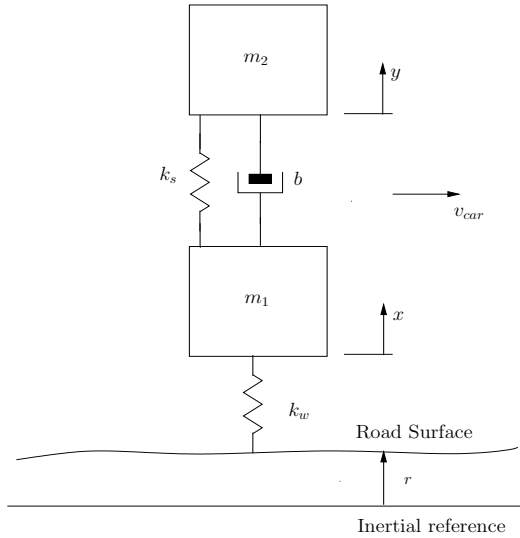

Figure 1: Two mass-model of car suspension system.
Question 1 Suppose you have a car with a suspension system modelled as a two-mass system (Figure 1). Assume that the car has a mass of 1580 kg, including the four wheels, which have a mass of 20 kg each. By placing a known weight directly over a wheel and measuring the car's deflection, you found the spring constant k_s of the car suspension to be 130,000 N/m. Measuring the wheel's deflection for the same applied weight, the tire compressibility k_w is found to be 1,000,000 N/m. The shock absorber b has a friction constant 9800 N-sec/m.
(a) What is the transfer function $\frac{Y(s)}{R(s)}$ of the system in Figure 1?
- (i) Obtain the observer canonical form of the system shown in Figure 1.